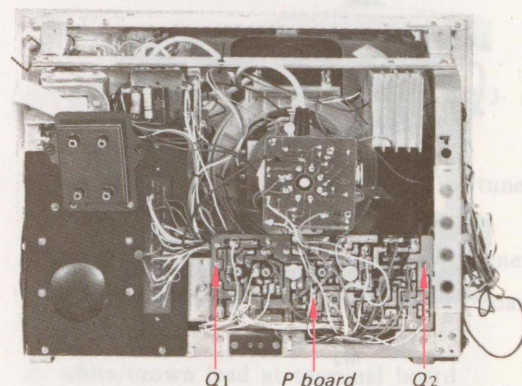

Fig. 2-22. P-board removal
1. Remove the two screws labeled Q1-2 in Fig. 2-22.